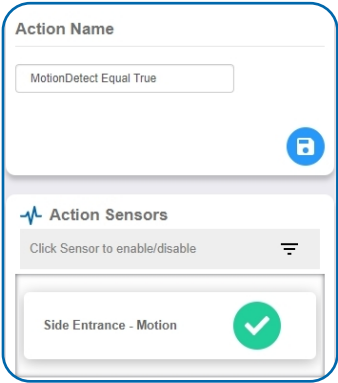

Figure 20
- By default, the sensor(s) will not be assigned to the Action conditions you've just set. To assign a sensor, find the device(s) you want to designate for this Action and select. Selected sensor boxes will turn green when activated. Choose the sensor box again to unassign the sensor from the Action. See Figure 20.